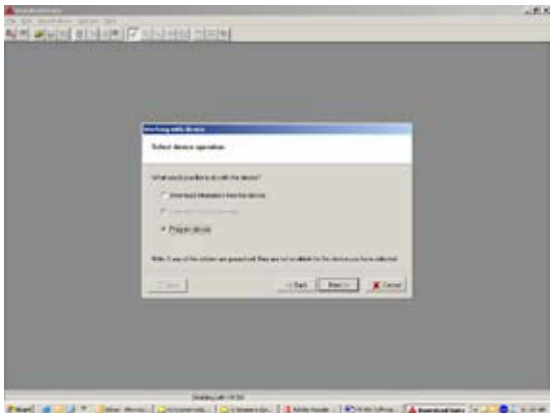

Figure 1
4. Select Program device and click on NEXT . Click on NEXT again to open the programming screen (see Figs 1&2)
6. To download file from the device, repeat steps 1 and 2. Select Download and click NEXT. (See Fig.1)